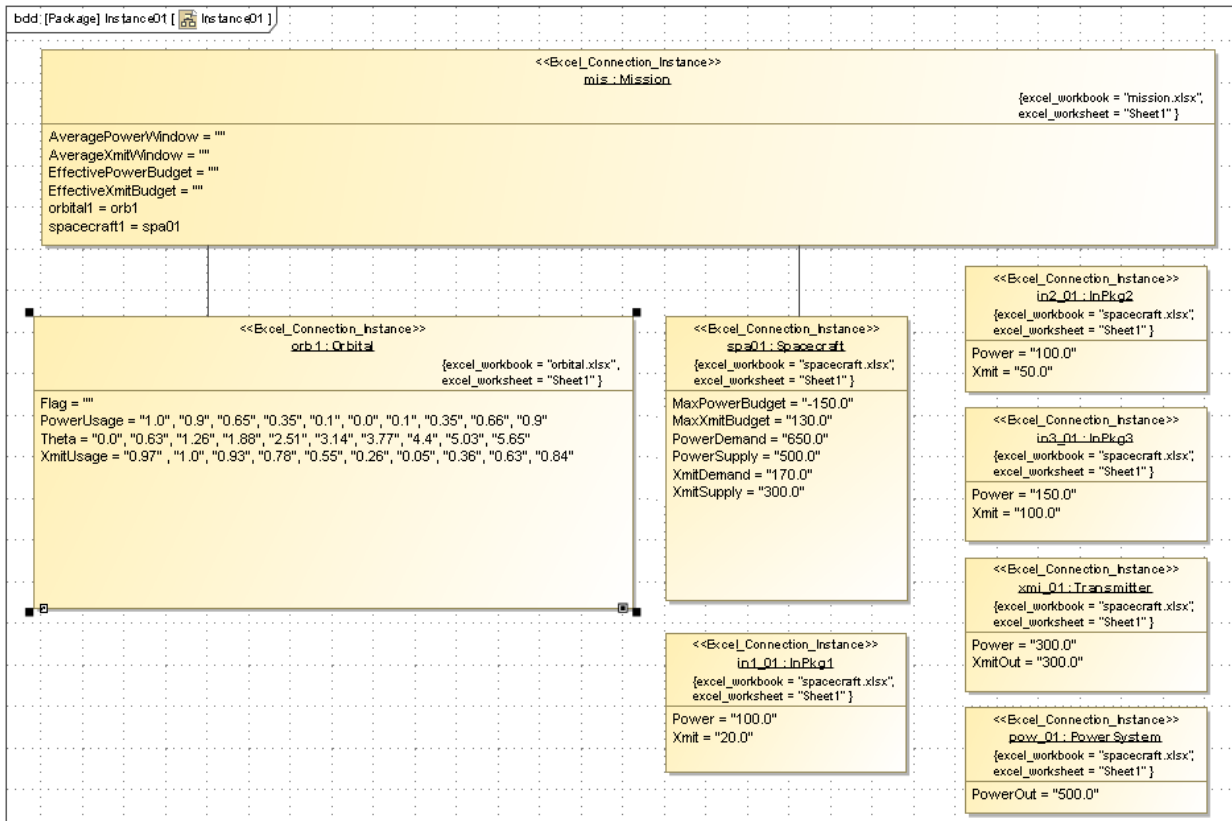

Figure 6.17 Values displayed in Instance01 diagram after Read from Excel
- c. During execution, all target values are read from all spreadsheets and written to the SysML instance diagram. See Figure 6.17.